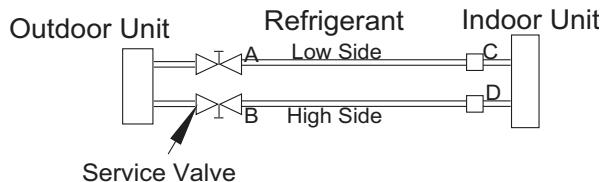

Fig. 28 – Service Valve
1. Completely tighten flare nuts A, B, C, D, connect manifold gage charge hose to a charge port of the low side service valve. (See Fig. 28.)